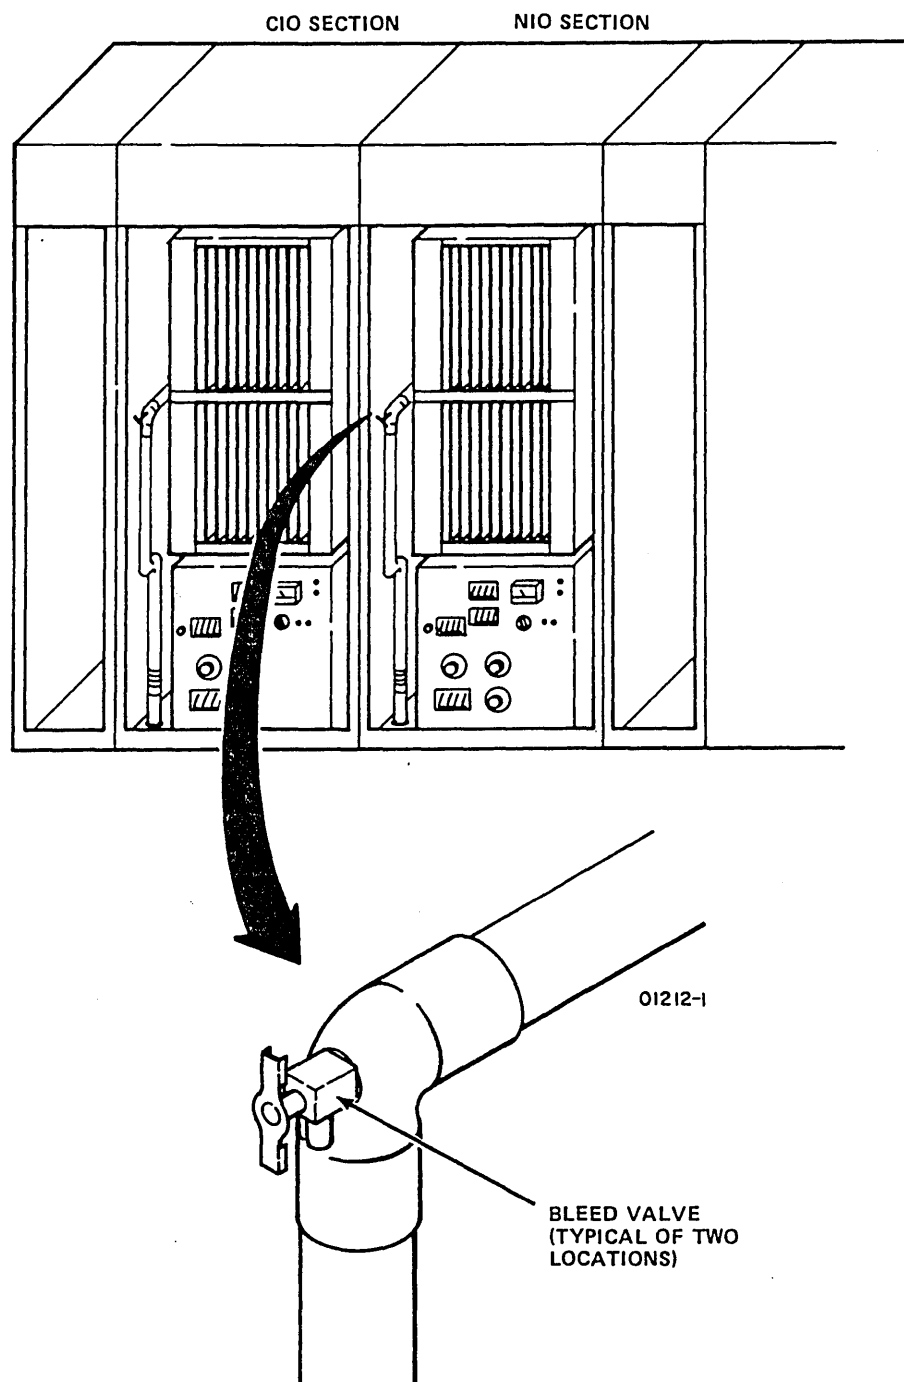

Figure 3-39. IOU Air Bleed Valve Locations
- ___ 1. Hold paper tissues or towel under bleed valve in NIO section of IOU (figure 3-39).